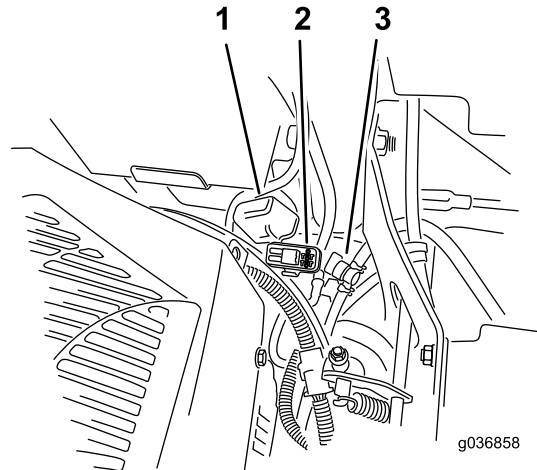

Figure 57
The fuses are located on the right console next to the seat (Figure 57).
- Install a new fuse (Figure 57).